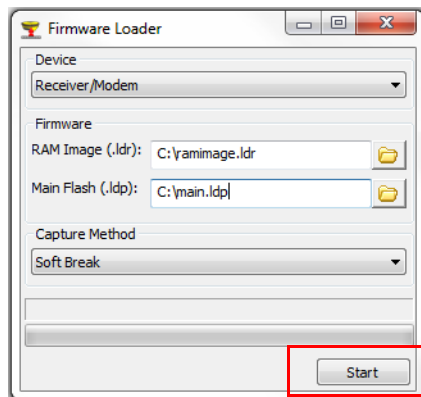

Figure 8: Upload Firmware Window
3. Click the **Firmware**  icon in the TRU main window. The **Upload Firmware** window (Figure 8) displays. This window enables you to upload firmware files to the connected receiver.
6. Browse for and select the receiver board's RAM and Flash files (Figure 8).